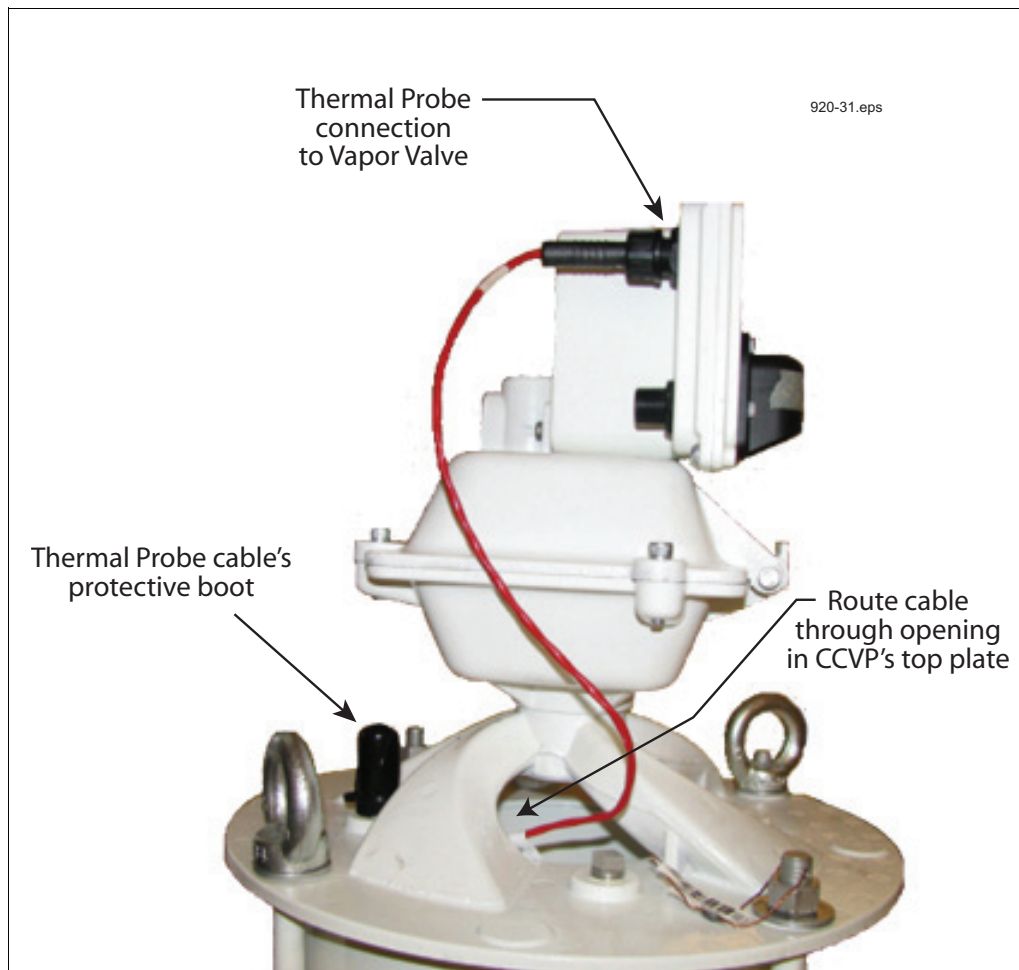

Figure 19. CCVP thermal probe
1. Cut the tie wrap around the thermal probe's protective boot and remove and set aside the boot. Remove the thermal probe cable connector from the back of the vapor valve assembly (see Figure 19).